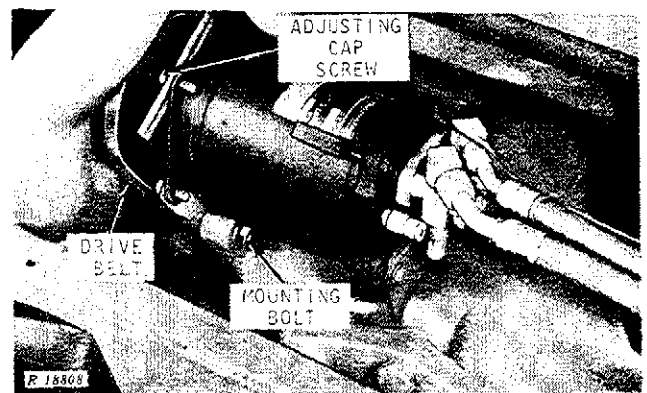

Fig. 3-Compressor Mounting
3. Loosen the compressor drive belt and remove the compressor mounting bolt (Fig. 3). Remove compressor (with refrigerant hoses connected to compressor), and place unit inside cab or fasten to cab. Do not disconnect the refrigerant hoses unless absolutely necessary.
1. On tractors with air conditioning, remove the compressor (Figs. 3 and 5) with hoses attached, and place inside the cab.
3. Remove air conditioning compressor (Fig. 3) with hoses attached, and place inside cab, if engine is to be removed.